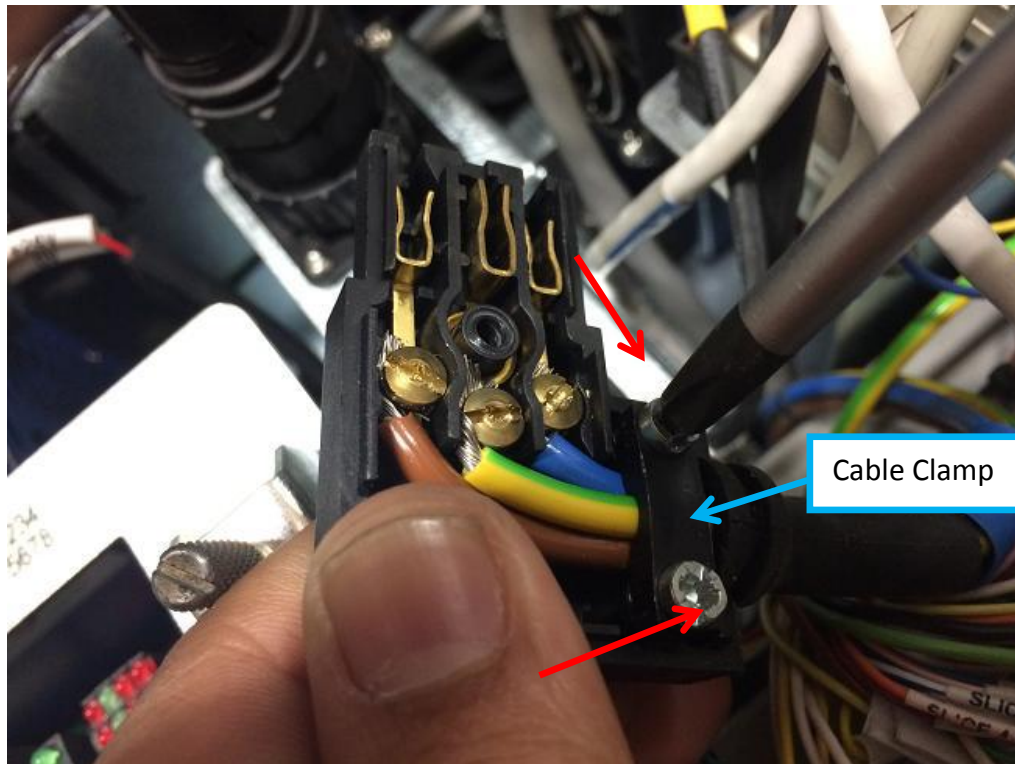

Figure 14
19. Loosen 2 x Philip screws and remove cable clamp as Figure 14